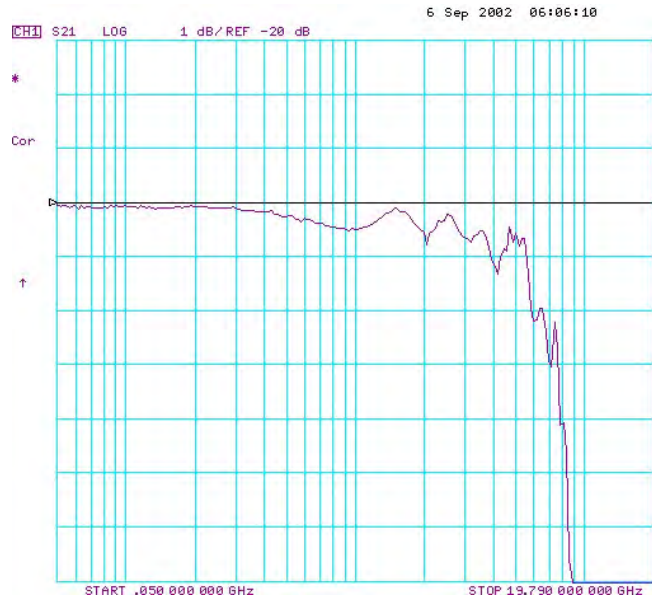

Figure 214 Typical V_{out} Waveform for an 1134A Probe
- 43** The display on screen is V_{out} and it should be similar to that shown in Figure 214.